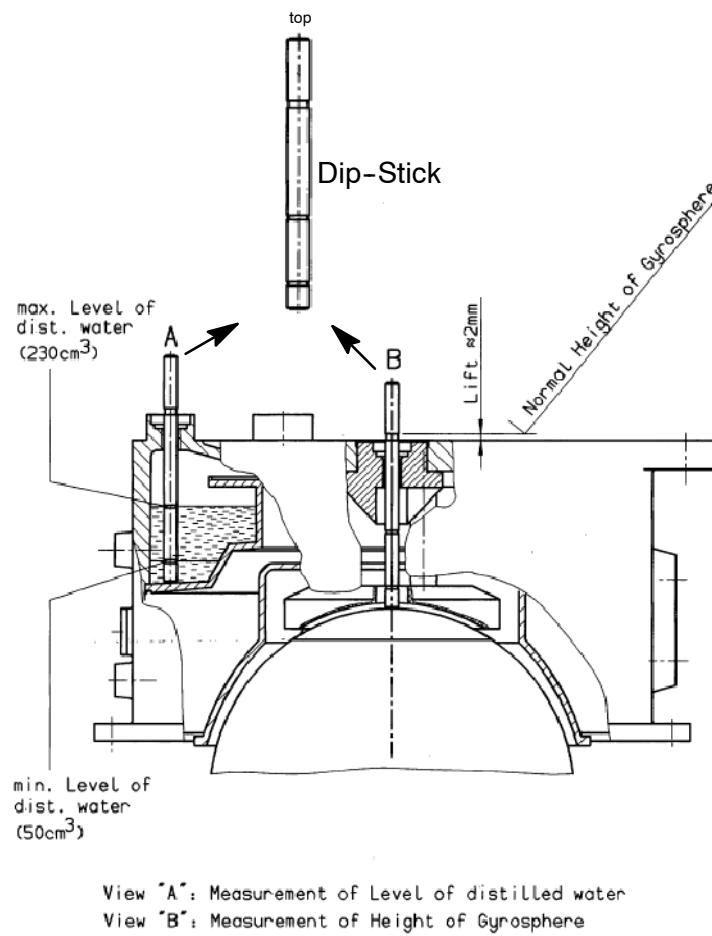

Figure 17 : Dip-Stick levels
- Fill in the remaining content of the bottle into the inlet for distilled water until the Dip-Stick shows a level according to Figure 17 .